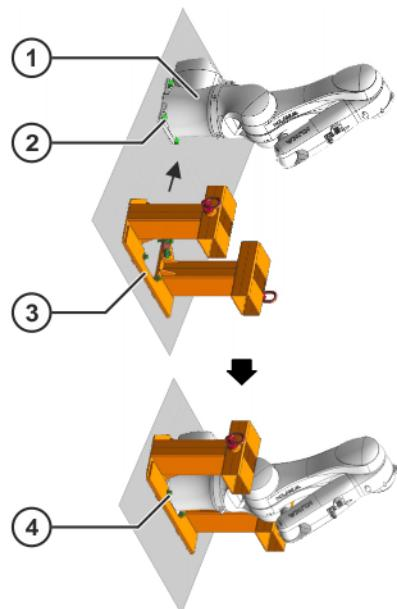

Fig. 11-4: Fastening the Load Lifting Attachment to the robot
12. Carefully push the Load Lifting Attachment onto the base frame of the robot from underneath (**>>> Fig. 11-4**).